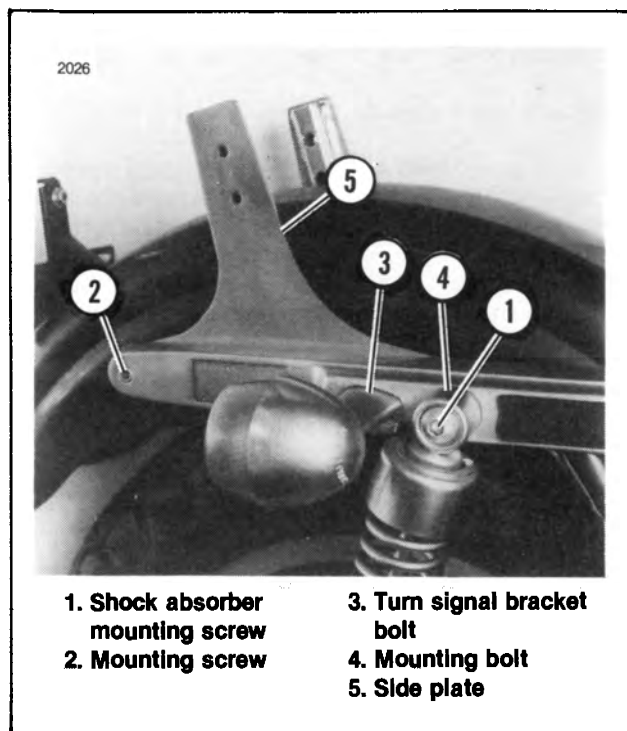
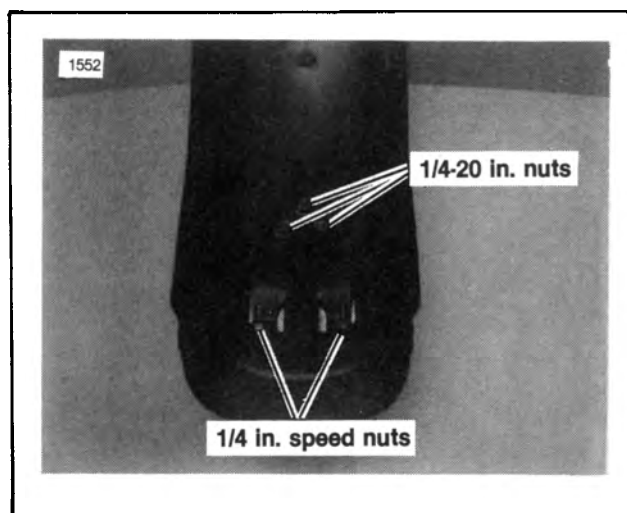

Figure 2-159. Rear Fender Removal — FXR
Figure 2-160. Taillamp and License Plate Bracket Removal — FXR
3. See Figure 2-159. Remove upper shock mounting screws (1) and drop wheel and swing arm down.
5. See Figure 2-159. Remove rear fender mounting screws (2). Remove bolts securing turn signal brackets (3) to fender supports and pull wires through hole in fender and support.
6. Remove bolts (4) from under fender and carefully lift off fender and sissy bar side plates (5) if present.
7. See Figure 2-160. Remove and discard the two speed nuts securing taillight to fender. Remove three nuts securing license plate bracket to fender.
2. See Figure 2-160. Install taillight to fender using new speed nuts. Route wires to front of fender securing under clips on fender.
3. See Figure 2-159. Place fender and side plates (5) in position and install mounting screw (2) and nuts. Install bolt in front of fender securing it to the frame.
4. See Figure 2-159. Install bolts (4). Insert turn signal lamp wires through hole in frame and install bolts and turn signal brackets (3). Route wires to front of fender securing under clips on fender.
5. See Figure 2-159. Install upper shock mounting screws (1) placing flat washer between fender support and shock absorber.
1. See Figure 2-160. Secure license plate bracket to new fender with three screws and nuts. Tighten nuts to 6 ft-lbs torque.